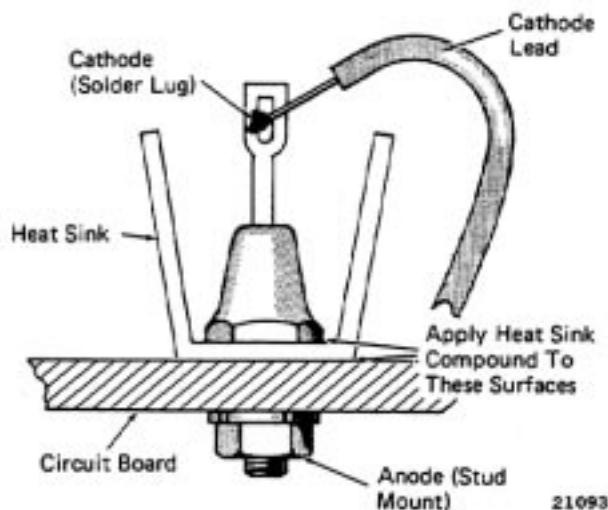

Fig. 27 - Replacing Stud Mounted Zener Diodes
1. Unsolder cathode lead from solder lug of zener diode, Fig. 27.